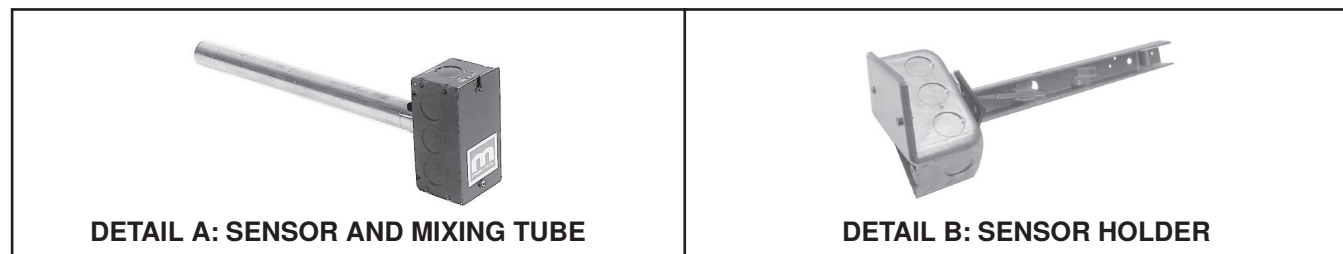

Figure 15. Discharge Air Temperature Sensor and Holder
- Makeup air options AG8, AG9, and AG15 (see **Figure 15**) require field installation of the sensor in the discharge ductwork.
- a. Position of sensor in duct is also important—mixing tube shown in Figure 15, DETAIL A is 12 inches (305 mm) long and holder shown in Figure 15, DETAIL B extends 9-3/16 inches (233 mm) into ductwork.
- d. For units with option AG8 or AG9, slide mixing tube (see Figure 15, DETAIL A) into ductwork and attach sensor.
- e. For units with option AG15, push element into clip in holder (see Figure 15, DETAIL B), slide holder into ductwork, and position holder so that it shields sensor from direct airflow. Secure box portion of holder to ductwork using four field-supplied #6 sheet metal screws.